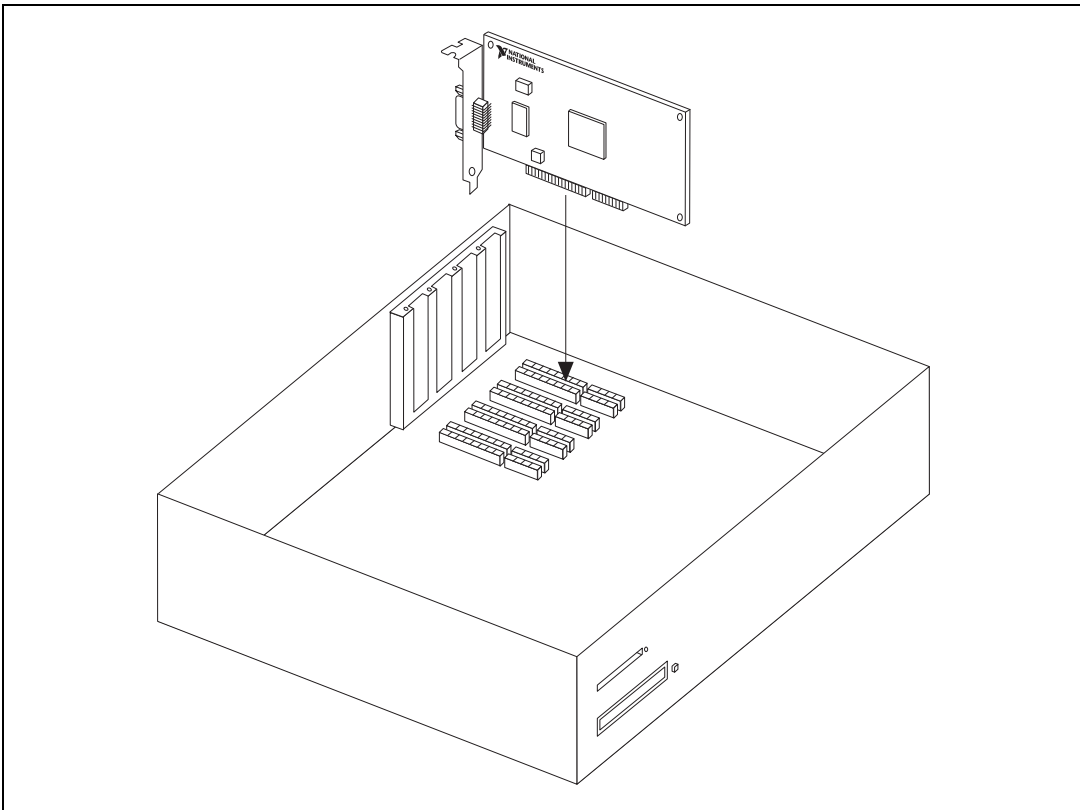

Figure 2. Installing the PCI-CAN
5. Insert the CAN interface into the slot with the CAN connector(s) sticking out of the opening on the back panel. It might be a tight fit, but do not force the interface into place. Figure 2 shows how to install the PCI-CAN into a 16-bit ISA expansion slot.